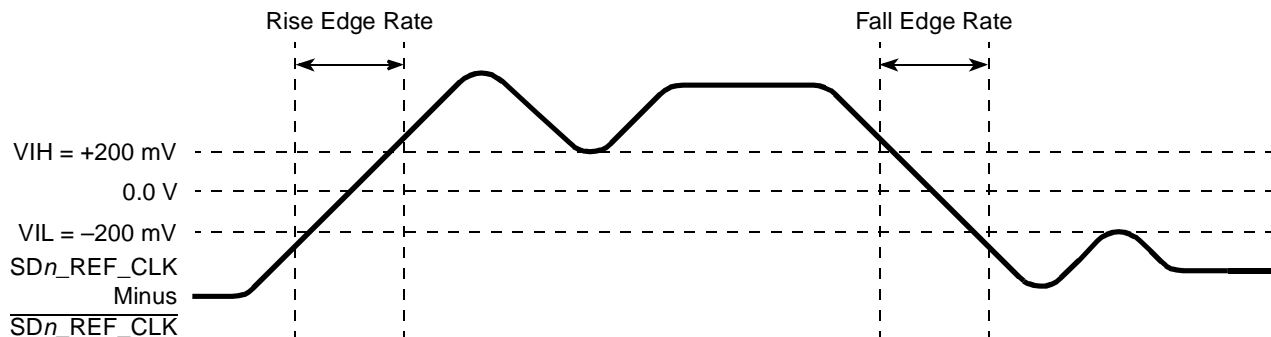

Figure 63. Differential Measurement Points for Rise and Fall Time
The differential waveform is constructed by subtracting the inverting signal ($\overline{SDn_TX}$, for example) from the non-inverting signal (SDn_TX , for example) within a differential pair. There is only one signal trace curve in a differential waveform. The voltage represented in the differential waveform is not referenced to ground. Refer to Figure 63 as an example for differential waveform.
- 3 Measured from -200 mV to $+200\text{ mV}$ on the differential waveform (derived from SDn_REF_CLK minus $\overline{SDn_REF_CLK}$). The signal must be monotonic through the measurement region for rise and fall time. The 400 mV measurement window is centered on the differential zero crossing. See Figure 63.